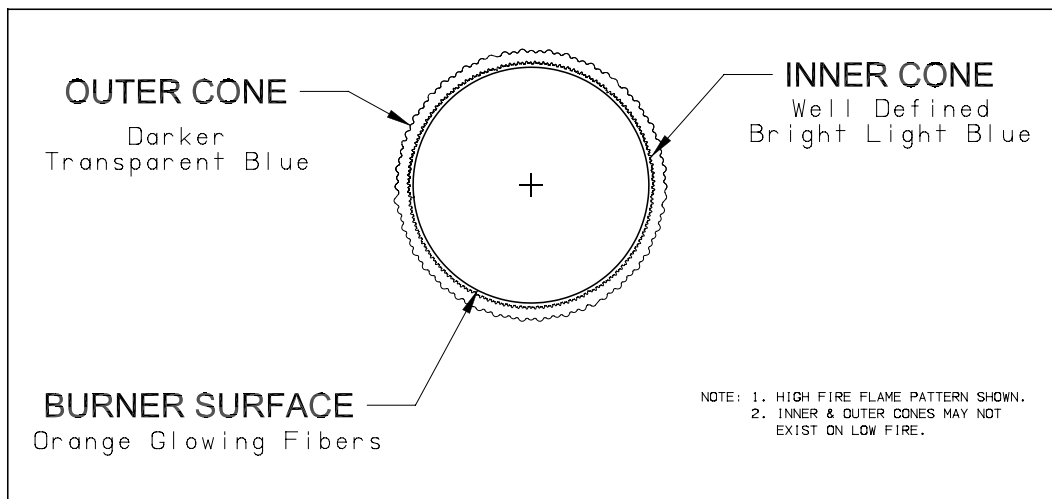

Figure 11.1: Burner Flame
- 9) Inspect the flame visible through the window. On high fire the flame should be stable and mostly blue (Fig.11.1). No yellow tipping should be present; however, intermittent flecks of yellow and orange in the flame are normal.